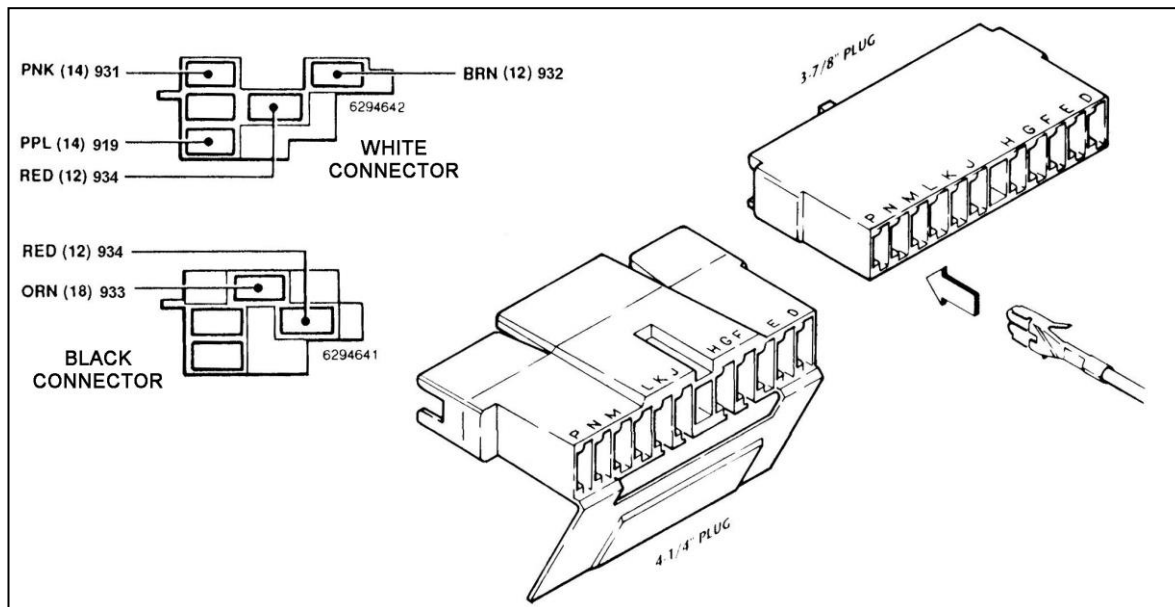

Figure 9-3 GM Ignition and Turn Signal Connectors (Aftermarket Column)
- 9.2** There are two different plugs on aftermarket tilt columns. The difference is in the length of the male plug that is mounted ON THE COLUMN. One plug is 3-7/8" (3.875") long and the other is 4-1/4" (4.250"). This is only a difference of 3/8" (0.375"), so measure the plug carefully. The Wire Harness Kit has included two different female connectors to mate with the column-mounted plug. See **Figure 9-3** to determine which female connector is correct for your automobile.
In the TURN SIGNAL SECTION, cut wires to length and install the terminals provided. Choose the proper plug and install the terminals according to **Table 9-2**, as shown in **Figure 9-3**. The GM wire color codes have been included for reference. **Note:** The terminals will only insert into the connector **ONE WAY**, as shown in **Figure 9-3**. Make certain you are inserting the wire into the **CORRECT LOCATION** as the terminals are difficult if not impossible to remove once inserted.